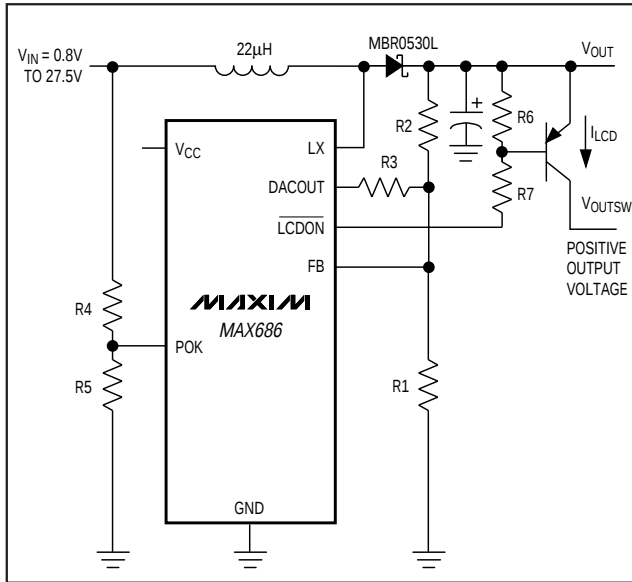

Figure 6. Using the POK for Input Voltage Monitoring
POK is the input to the power-OK comparator. The comparator drives an internal N-channel MOSFET. The MOSFET's open-drain output, $\overline{\text{LCDON}}$, can drive an external PNP transistor or P-channel MOSFET, switching a positive V_{OUT} to the LCD (Figures 6 and 7). When the voltage at POK exceeds 1.125V (power OK), $\overline{\text{LCDON}}$ goes low, turning on the external PNP transistor. When the voltage at POK drops below 1.125V (power not OK), the external PNP transistor turns off, cutting off power to the LCD display. This feature ensures that the LCD display is not damaged due to improper voltage levels. During shutdown or undervoltage lockout, $\overline{\text{LCDON}}$ is high impedance.
When the voltage at POK is greater than 1.125V (typical), the open-drain LCDON output pulls low. LCDON can withstand up to 27.5V to control an external PNP transistor to switch on the MAX686's positive output (Figures 6 and 7). A PFET can also be used, but a resistor-divider must be used in conjunction with it, so that the PFET does not exceed its V_{GS} rating. Three useful applications of this feature are as follows:
- An input-sensing cutoff for positive outputs. Connect POK to a voltage divider to sense the input voltage. The output switches on only when the input reaches the set level (Figure 6).
For input voltage sensing, a resistor-divider (R4-R5, Figure 6) from VIN to POK controls the open-drain output LCDON, which pulls low when $V_{POK} > 1.125V$. Choose $R5 = 100k\Omega$. For example, if the minimum battery voltage is 5.3V, then determine R4 as follows: